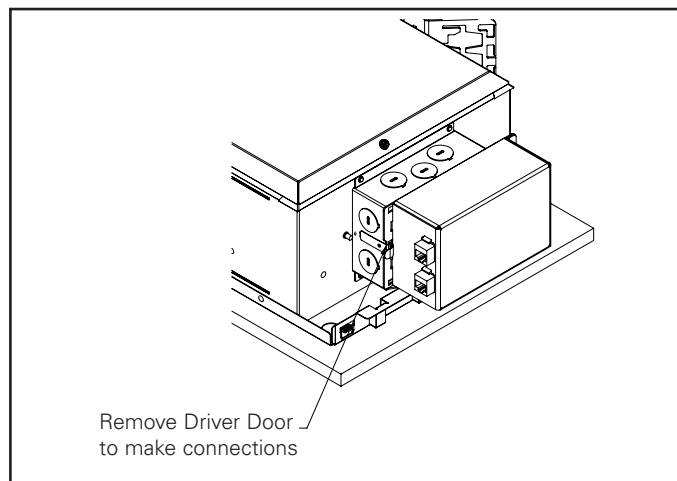

Figure 8.
1. Remove the outer JBOX cover Fig 8 (driver attached to cover).
1. Remove outer JBOX door. Connect supply leads and appropriate dimming/ controls leads as specified in the wiring diagrams and in accordance with your local electrical code(s) or N.E.C. (see Figure 8).